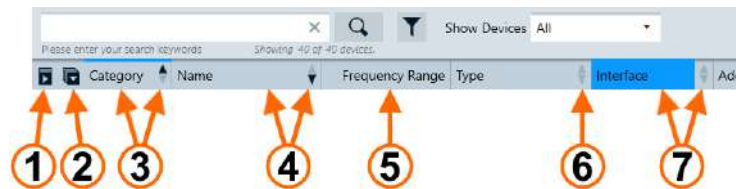

Figure 4-162: Features of the table head for column display and sorting
- If the sorting arrow points up ▲ as in Figure 4-162 (3), the entries are sorted A to Z
- If the sorting arrow points down ▼ as in Figure 4-162 (4), the entries are sorted Z to A